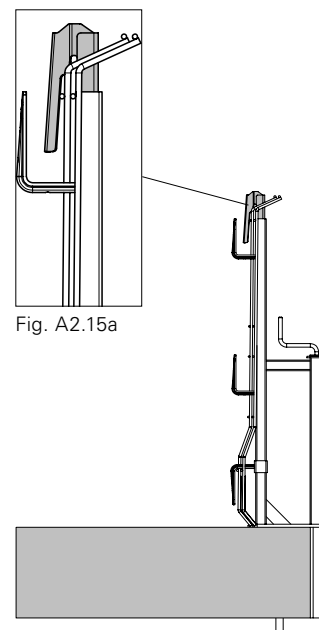

Fig. A2.15
4. Assembly with two Side Mesh Barriers PMB. Standard assembly with overlapping on Guardrail Holder-2. (Fig. A2.15/A2.15a)